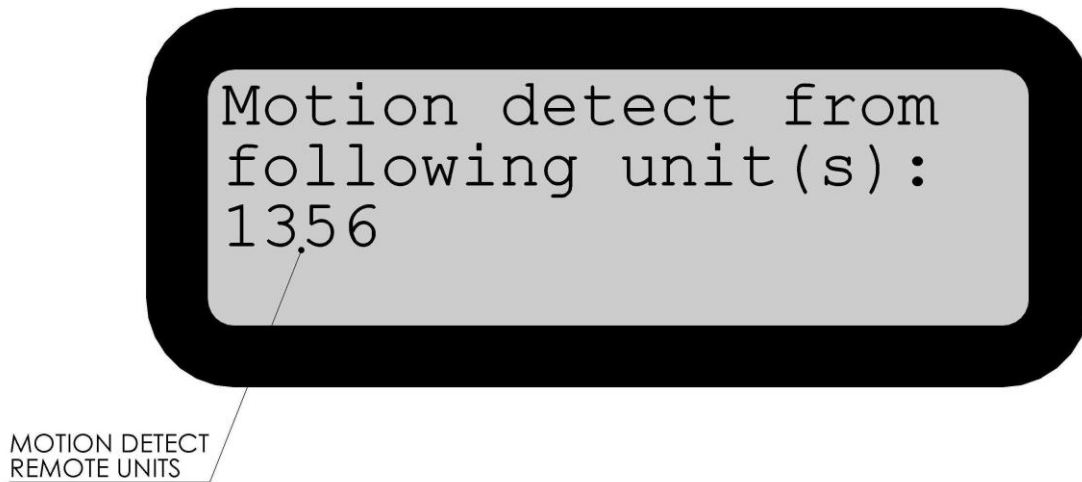

Figure 2-7 Motion Detect Screen
Figure 2-7 shows the Motion Detect Screen which is displayed after firing. After firing, the Remote Units have sensors which measure vibration between 8 and 12 Hz. About 10 seconds after firing, the Motion Detect Screen will be updated automatically to show any Remote Units that have detected a motion. Remote units that do not report that a motion was detected are not shown. In
2.7.13. Figure 2-7 Remote Units 1, 3, 5, and 6 report that they have detected a motion following initiation.